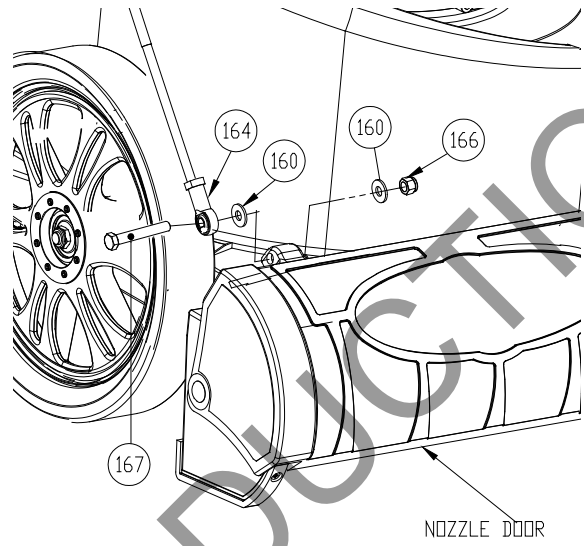

Fig. 4
- Attach rod end (item 164) to the nozzle door rod then secure in place by tightening jam nut. (See Fig. 4 next page)
- Attach nozzle door rod to the lever with nozzle door closed and lever in hose kit position. *NOTE:* Check to see that the nozzle door opens and closes all the way (see page 15). Tighten or loosen the rod end (item 164) for any adjustments. (See Fig. 4 and 5 next page)